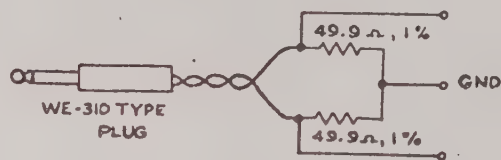

Figure 5-1: Tapped Termination (1 required)
- b. Plug the test termination shown in Figure 5-1. of the four output jacks of the Test Set.
- c. Connect an X10 Oscilloscope probe between the GRD terminal and either one of the remaining terminals of the Tapped Termination (Figure 5-1).
- b. Connect the cord of the test circuit shown in Figure 5-1 to one of the DS-1 Output jacks of the Test Set, and insert the three Terminations (Figure 5-4) into the remaining output jacks. Attach the GRD lead of the X10 probe to the GRD, center, tap of the test circuit and the probe tip to either of the outer taps.